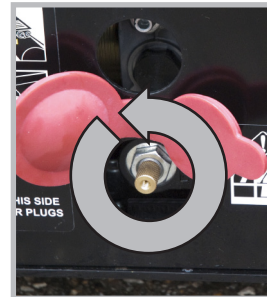

Figure 1
1. Turn the emergency valve on the base unit anticlockwise until it will not turn any further as shown in *figure 1*.